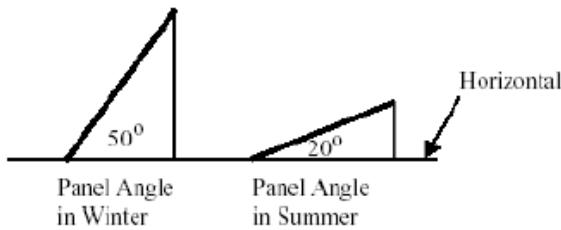

Figure 8. Seasonal Solar Panel Angles for Austin (latitude = 30°) with Respect to the Horizontal
- Typically, panels are fixed in position facing true south due to high wind survivability and adjusted only seasonally for altitude (winter angle = latitude + 20°, summer angle = latitude - 10°). For Austin's suggested seasonal panel angles, see Figure 8.